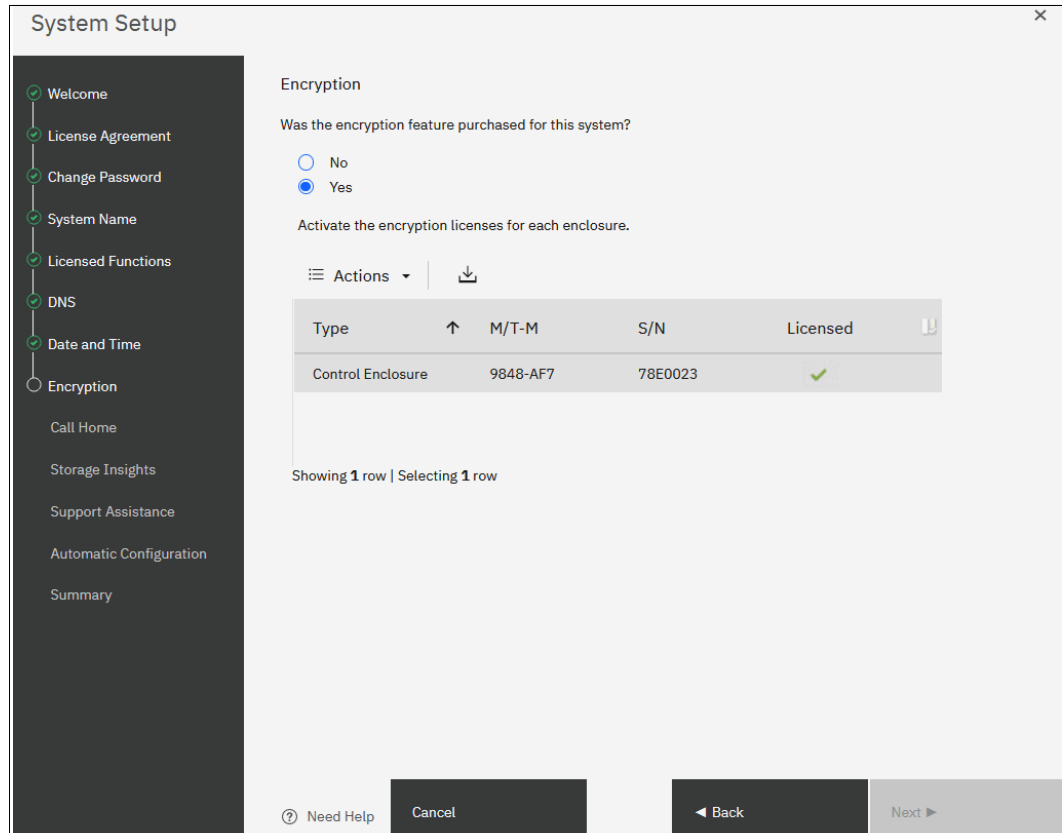

Figure 2-32 Encryption licensed
21. After the encryption license is activated, you see a green check mark for each enclosure, as shown in Figure 2-32 on page 43. After all the control enclosures show that encryption is licensed, click **Next**.